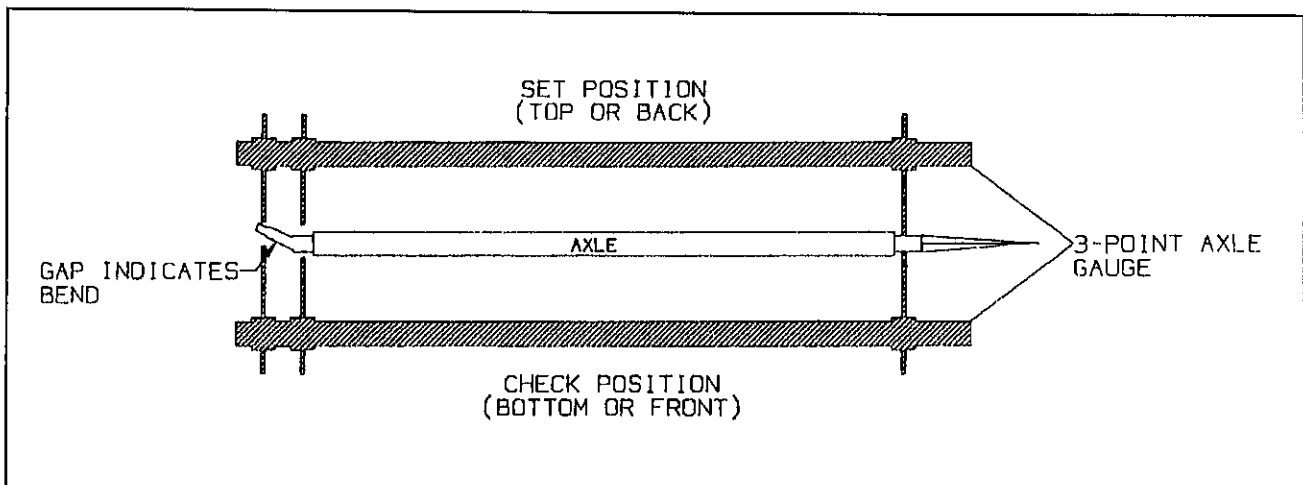

Figure 4-5 Checking Axle for Bend
b. Place a 3-point axle gauge against the front side of the axle, and adjust each axle gauge point to the axle. (Double point end against the inner and outer wheel bearing surfaces of the spindle being checked and the other point on the inner bearing surface on the other spindle) (See Figure 4-5).
c. Move the axle gauge and place against the back side of the axle. If either of the points of double point end fails to touch the axle surface, a bent spindle is evident. A point gap of .015" or more is considered excessive tire "toe" and the axle must be replaced (See Figure 4-5).